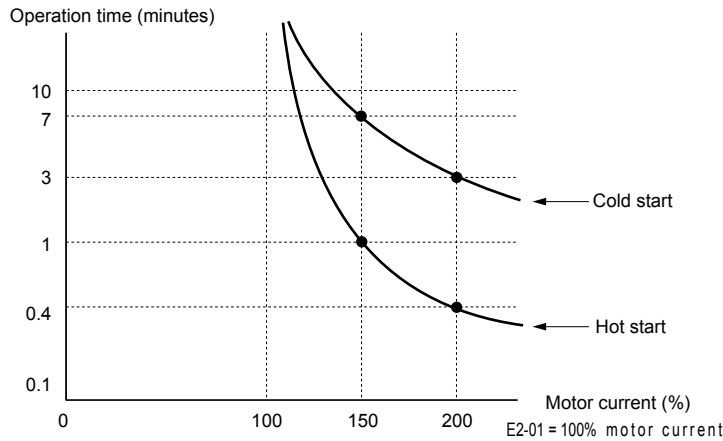

Figure 5.77 Motor Protection Operation Time
- Figure 5.77 shows an example of the electrothermal protection operation time using a general-purpose motor operating at 60 Hz with L1-02 set to one minute.